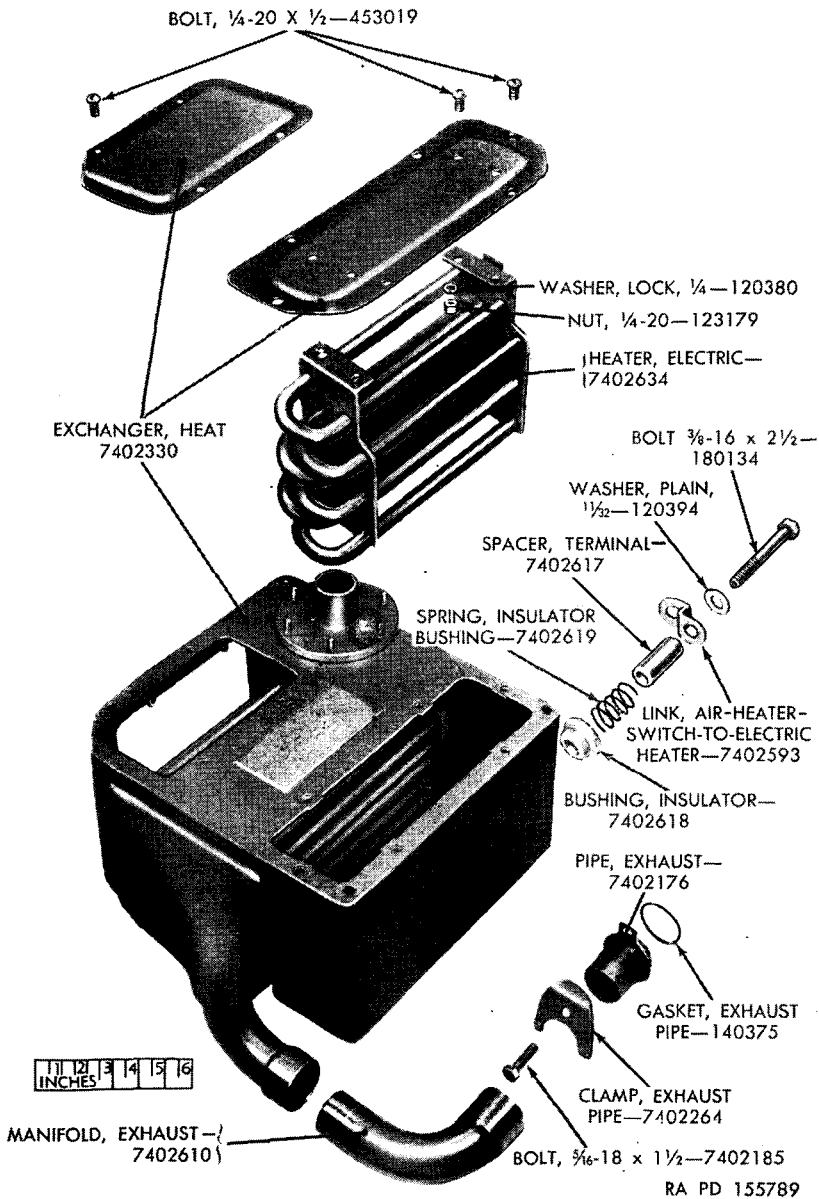

Figure 79. Heat exchanger and exhaust manifold—exploded view.
c. Remove ten $\frac{1}{4}$ -20 x $\frac{1}{2}$ bolts securing element cover and electric heater cover (fig. 79) to heat exchanger and remove covers and electric heater.
d. Remove four bolts and disconnect electric heater from cover (fig. 79).
- a. Attach electric heater cover (fig. 79) to heater with four $\frac{1}{4}$ -20 x $\frac{1}{2}$ bolts and insert heater into cavity of heat exchanger. Secure heater cover to heat exchanger with six $\frac{1}{4}$ -20 x $\frac{1}{2}$ bolts (fig. 79).
- b. Assemble washers, link, terminal spacer, insulator-bushing spring, and insulator bushing on $\frac{3}{8}$ -16 x 2 $\frac{1}{2}$ bolt (fig. 79). Insert bolt through hole in side of heat exchanger and thread into tapped hole in electric heater.
- c. Secure element cover to heat exchanger with four bolts (fig. 79).